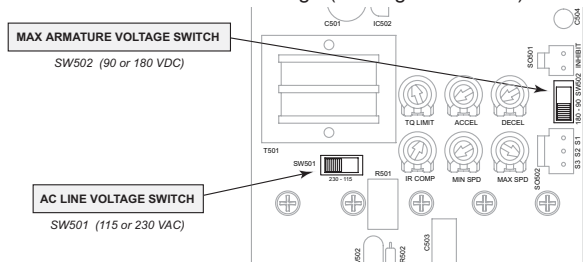

Figure 4. Voltage Switches
- Set voltage switch SW501 to either 115 or 230 to match the AC line voltage (see Figure 4 below).
- Set voltage switch SW502 to either 90 or 180 to match the maximum armature voltage (see Figure 4 below).
- Set voltage switch SW501 to either 115 or 230 to match the AC line voltage (see Figure 4, page 9).
- Set voltage switch SW502 to either 90 or 180 to match the maximum armature voltage (see Figure 4, page 9).